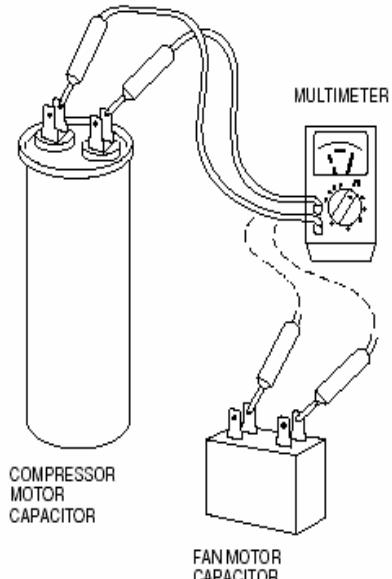

Fig. 7
- Remove the lead wires from the capacitor terminals, and then place a probe on the capacitor terminals as shown in Fig. 7. Observe the deflection of the pointer, setting the resistance measuring range of the multimeter to the maximum value. The capacitor is "good" if the pointer bounces to a great extent and the gradually returns to its original position. The range of deflection and deflection time differ according to capacity of the capacitor.